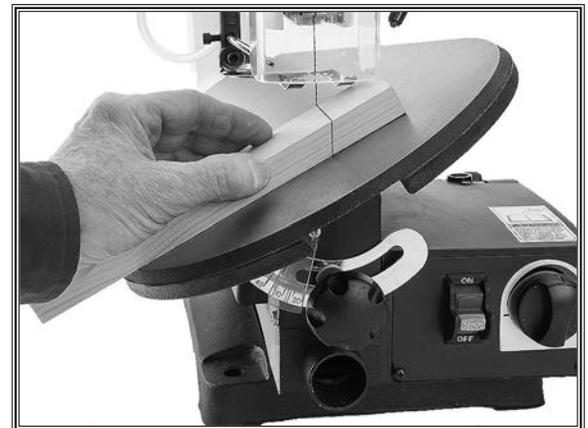

Figure 21. Example of making a bevel cut.
3. Turn machine **ON**, feed work piece slowly and evenly into blade, remembering not to force workpiece (see **Figure 21**).